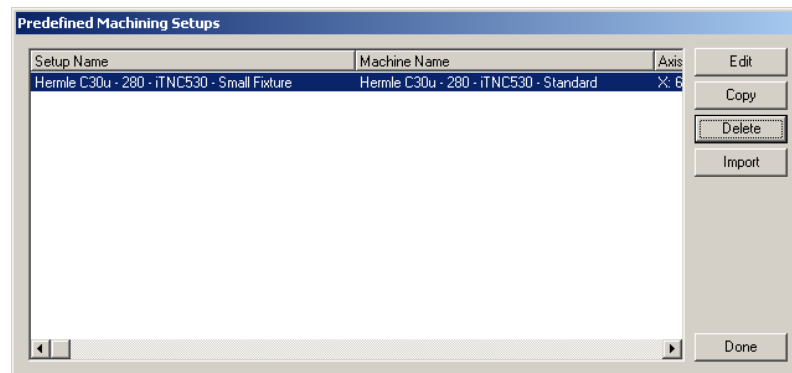

Figure 1: Machining Setup Manager
- 1) Open the Machining Setup Manager (figure 1) by Selecting 'Milling Machines->Edit/Create Machining Setup' from the 'Resources' menu in CAMplete TruePath